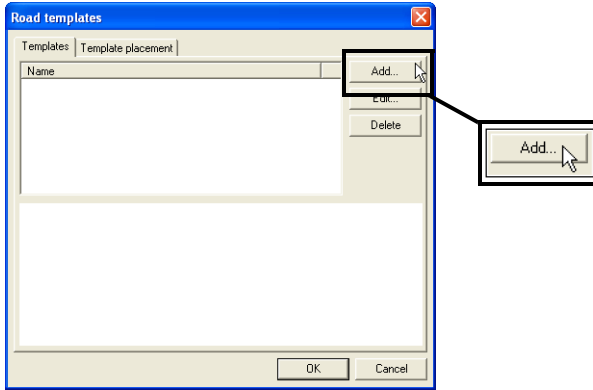

Figure 6-8. Add Feature Line Template
1. Click **Alignment** ► **Templates** and click **Add** on the *Road templates* dialog box (Figure 6-8).